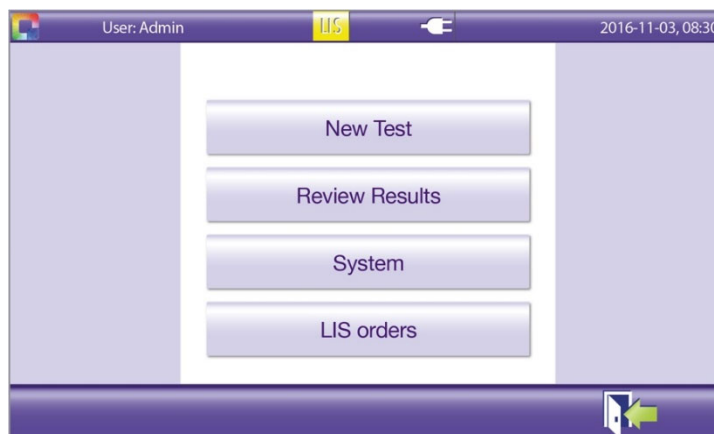

Figure 14
- Touch the logout icon  in the **Main Menu** (**Figure 14**).
- The **Main Menu** (**Figure 14**) appears if the login information entered is correct regardless of internal calibration pass/fail status, the Main Menu will always appear.
- Touch the logout icon  in the **Main Menu** (Figure 14).
The following choices are available on the **Main Menu** (Figure 14).